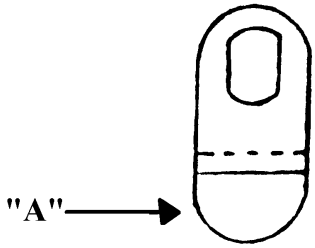

Figure 1
4. Center punch the four (4) securing holes in the lock hole plate on each side.
10. Place the cam with the vertical slot in position with area "A" (see figure 1) in the down position.